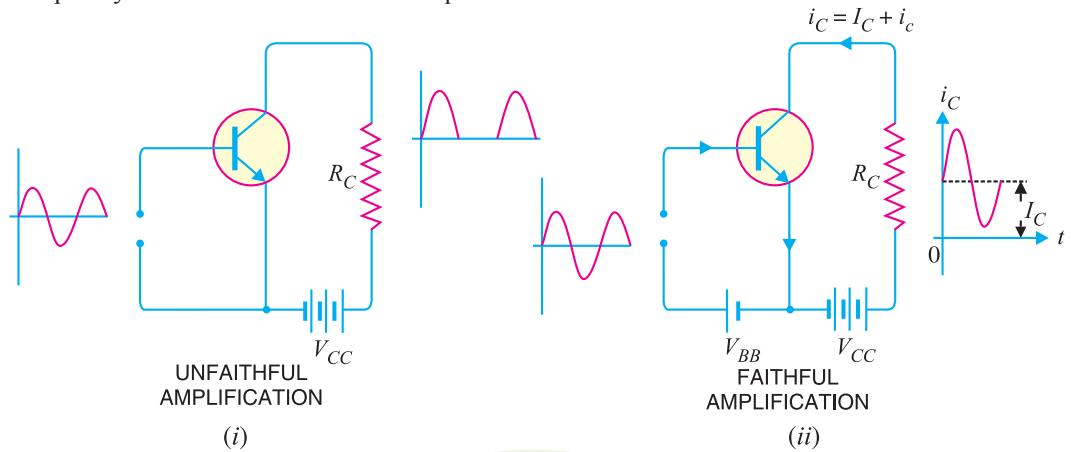

Fig. 9.1
**(i) Proper zero signal collector current.** Consider an *npm* transistor circuit shown in Fig. 9.1 (i). During the positive half-cycle of the signal, base is positive w.r.t. emitter and hence base-emitter junction is forward biased. This will cause a base current and much larger collector current to flow in the circuit. The result is that positive half-cycle of the signal is amplified in the collector as shown. However, during the negative half-cycle of the signal, base-emitter junction is reverse biased and hence no current flows in the circuit. The result is that there is no output due to the negative half-cycle of the signal. Thus we shall get an amplified output of the signal with its negative half-cycles completely cut off which is unfaithful amplification.
Now, introduce a battery source  $V_{BB}$  in the base circuit as shown in Fig. 9.1 (ii). The magnitude of this voltage should be such that it keeps the input circuit forward biased even during the peak of negative half-cycle of the signal. When no signal is applied, a d.c. current  $I_C$  will flow in the collector circuit due to  $V_{BB}$  as shown. This is known as **zero signal collector current**  $I_C$ . During the positive half-cycle of the signal, input circuit is more forward biased and hence collector current increases. However, during the negative half-cycle of the signal, the input circuit is less forward biased and collector current decreases. In this way, negative half-cycle of the signal also appears in the output and hence faithful amplification results. It follows, therefore, that for faithful amplification, proper zero signal collector current must flow. **The value of zero signal collector current should be atleast equal to the maximum collector current due to signal alone i.e.**